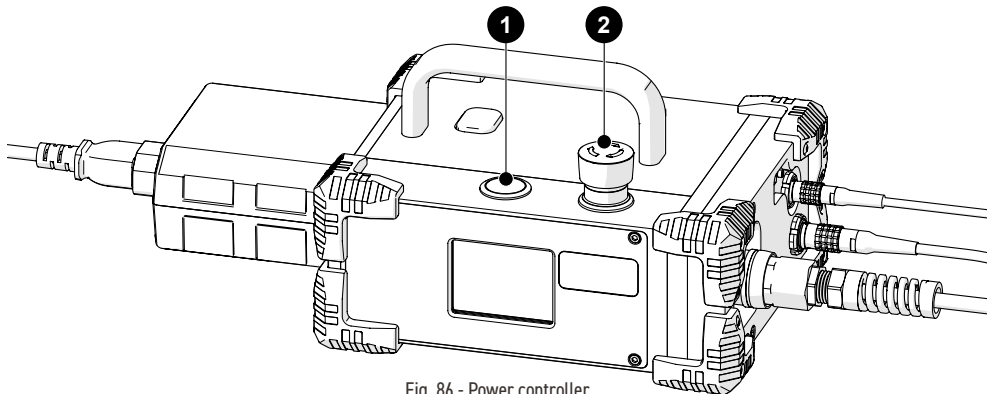

Fig. 86 - Power controller
3. Locate the **2** red emergency stop push-button on the power controller. Rotate this button clockwise to unlatch (Fig. 86).
4. The **1** power button (Fig. 86) on the power controller activates the system.